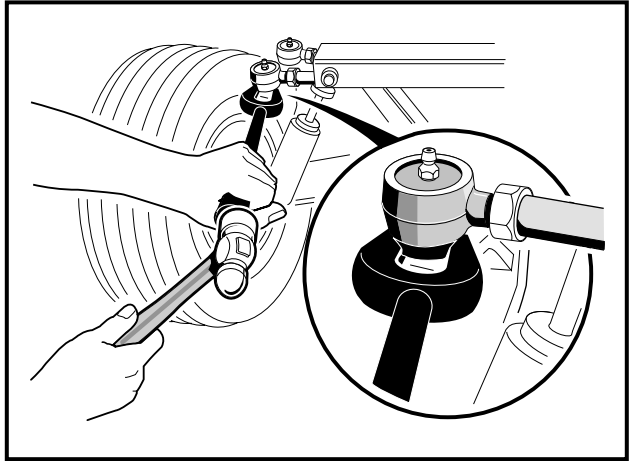

Figure 7-8 Ball Joint Tool
3. Using a ball joint removal tool, remove the ball joint (23) (**Figure 7-12, Page 7-10**) from the spindle assembly. See **Figure 7-8, Page 7-8**.
- Remove ball joint from the spindle and inspect it for excessive wear (**Figure 7-8, Page 7-8**).